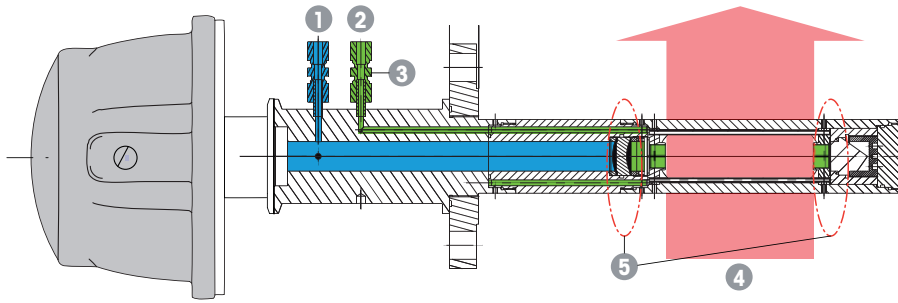

Figure 6 Purging configuration for standard purged probe (SP)
Figure 6 on page 40 and Figure 16 on page 45 provides further details on the purge requirements for the standard purge (SP) probe together with the typical configuration of the required external flowmeters (rota meters) used to supply and control the purge gas flow.